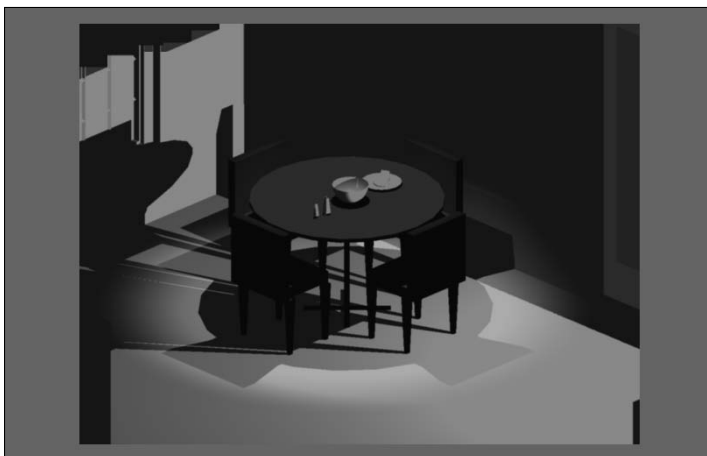

**Figure 25-10:** The same rendering with shadows.
14. Choose Advanced Render Settings from the Render toolbar again. Click the Specifies If Shadows Are Computed Lightbulb icon in the Shadows section. Click Render. Notice that the rendering takes much longer. Lots of shadows this time! This rendering also makes it clear that no light is coming through the windows. (See the “Working with Materials” section to learn how to make materials transparent.) The rendering should look like Figure 25-10.